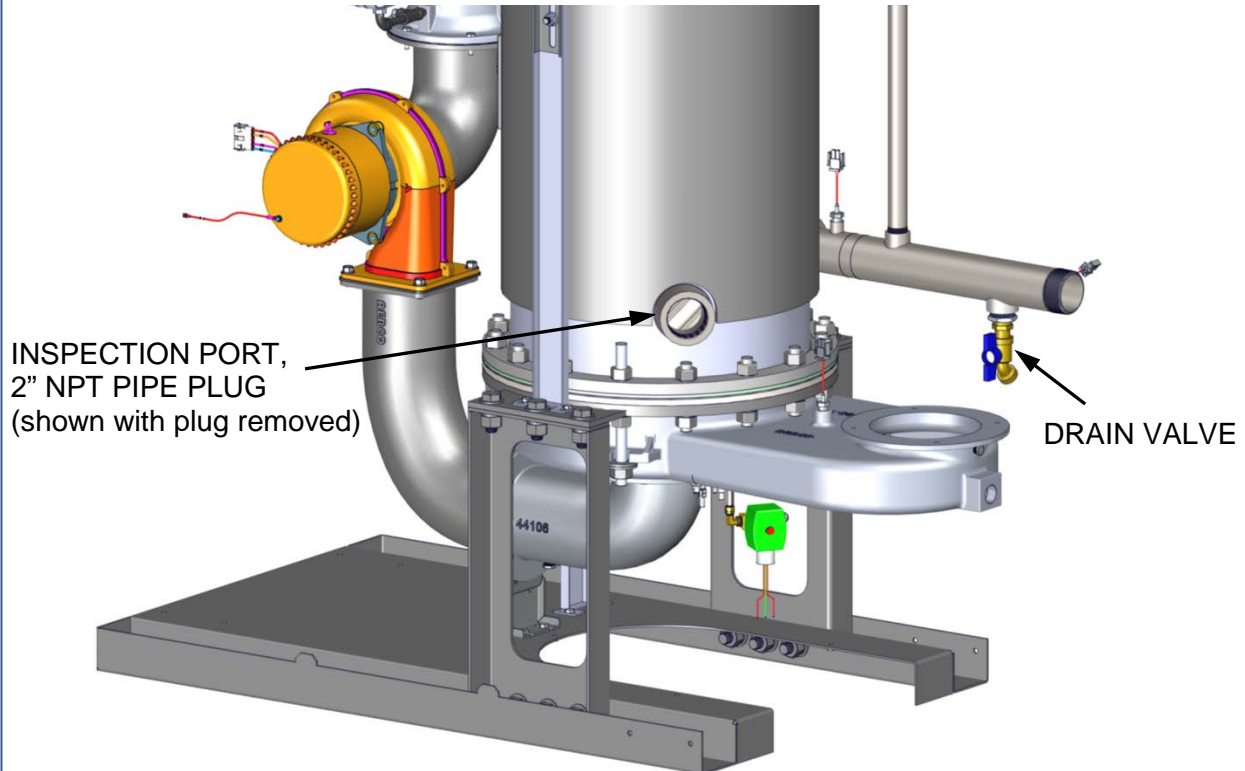

Figure 6-7: Lower Waterside Inspection Port Location
Inspection of the lower tubesheet area is done using the 2" NPT inspection port in the lower section of the shell, as shown in Figure 6-7.
4. Referring to see Figure 6-7, below, remove the 2" NPT plug near the base of the heat exchanger shell (a little additional water may flow from the port).